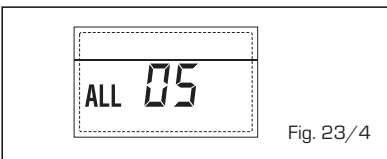

Fig. 23/4
**- BLOQUEIO CHAMA “ALL 06” (fig. 23/5)**